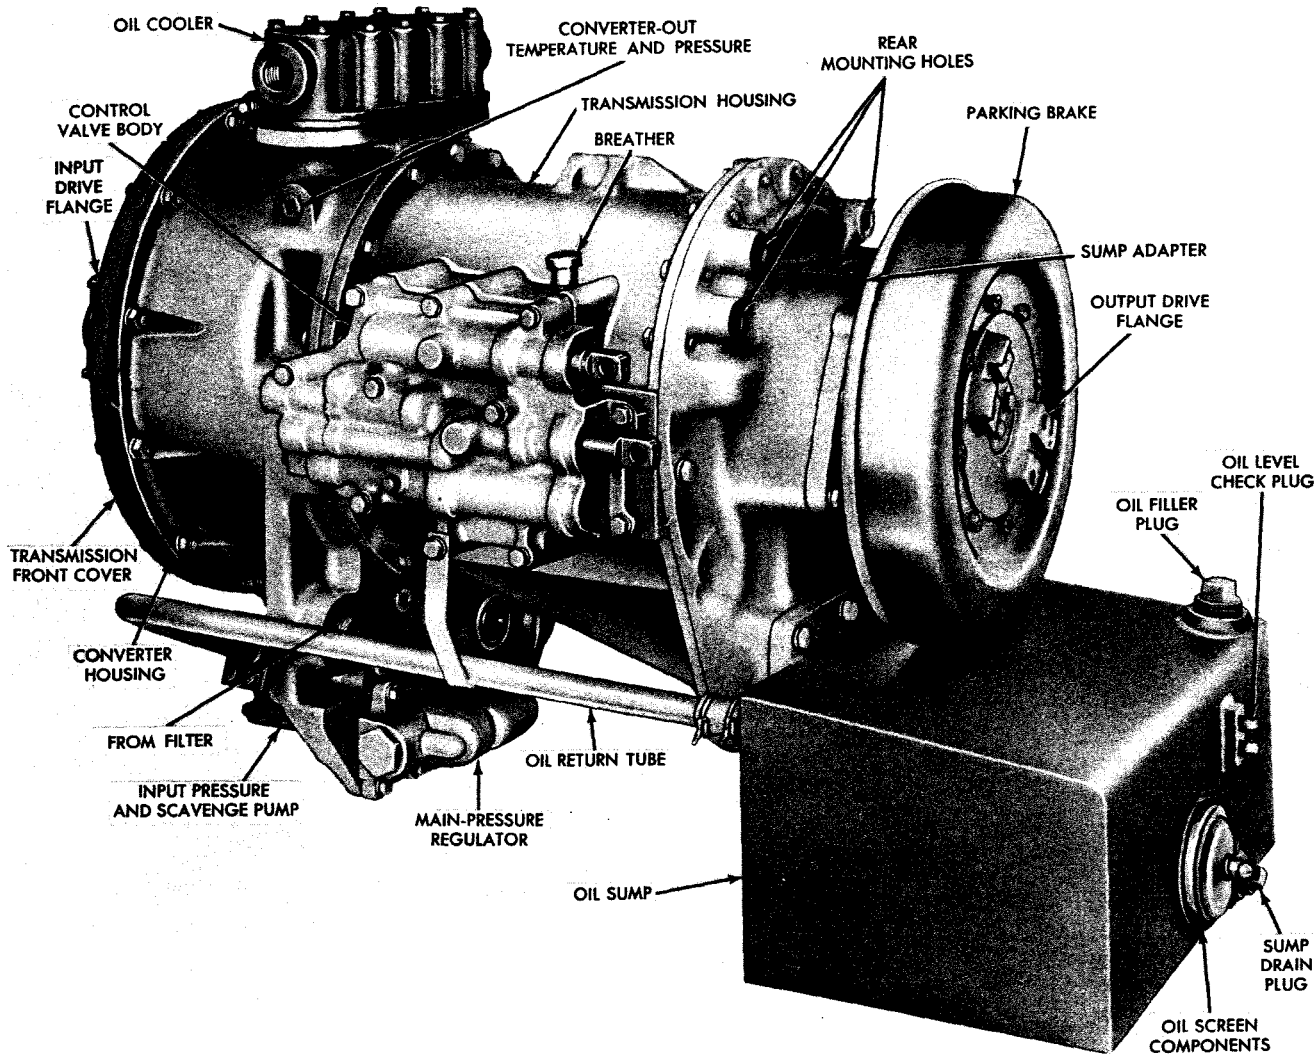

Fig. I-4. Model CRT 3531-3 Torqmatic transmission with remote-mount option—left-rear view
(2) Models having transfer cases are supported at the rear on 4-hole mounting pads at each side of the transfer case (fig. I-2). Straight-through models have tapped bosses on the adapter housing for rear support (fig. I-4). Remote-mount models have a trunnion, on the front cover, concentric with the input shaft, for front support. Direct-mount transmissions depend upon the engine flywheel housing for front support.
transfer tube 5 (fig. III-7) is installed in the converter housing to direct the oil to the filter. Oil lines to (fig. I-1) and from (fig. I-4) the filter connect into tapped openings in the converter housing. No oil transfer tube is used, and the tapped openings are plugged, in installations not equipped with a filter.
(1) Speedometer drive. A speedometer drive option is available on -1 models. It is driven by the transmission main shaft and rotates at a speed equal to the transmission range speed.
(2) Steer pump drive. Available on remote-mount, transfer case (-1) models is an input pump assembly 23 (foldout 1) with an adapter 24 for mounting and driving a steer pump. This option consists of an extended front cover on the input pump, an extended pump drive gear, and a splined coupling. Space limitations prohibit the use of this option on direct-mount transmissions.
(3) Implement pump or PTO drive. On all models, an implement pump drive 22 (foldout 1) is provided for mounting an implement pump or power takeoff. Rotation is clockwise as viewed from the input end of the transmission. Speed is the same as engine speed and the drive rotates when the engine rotates.
g. Output Disconnects. Outputs and output disconnects vary between installations. On straight-through (-3) models, only a rear output, without the disconnect feature, is available (fig. I-4). On transfer case (-1) models, either front or rear outputs, or both, are available (fig. I-2). Either of these may include the manual disconnect feature, in which a splined collar is manually shifted to connect or disconnect the output shaft (refer to 17, foldout 1).